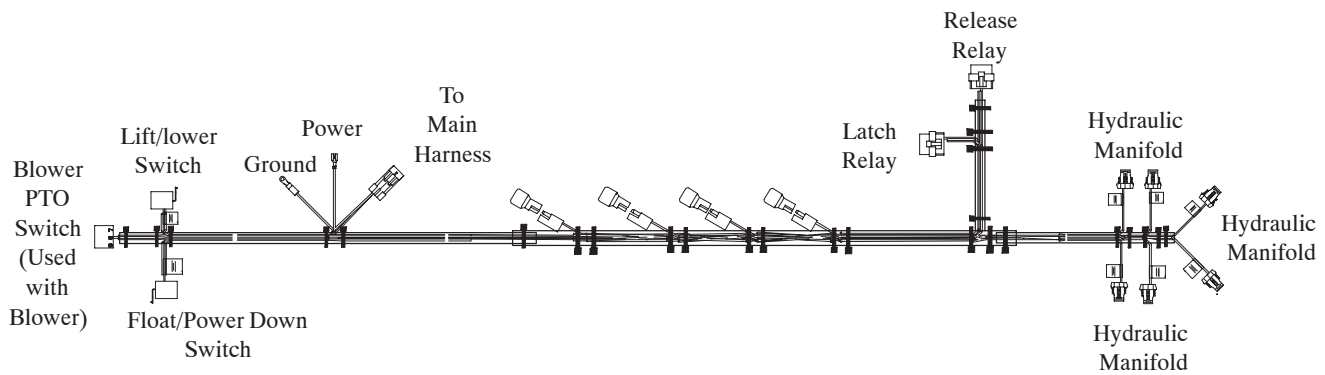

Figure 26
41. Route and connect the wire harness (Fig. 26) at the follows locations: